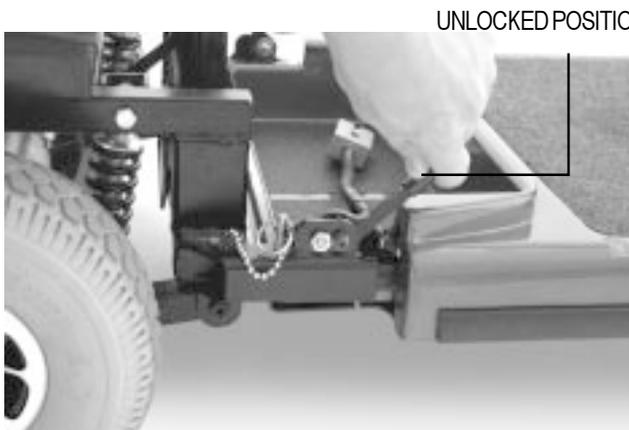

FIGURE 23. LOCKING CAM LEVERS
9. Push the locking cam levers forward and remove the ball detent pins. See figures 23 and 24.